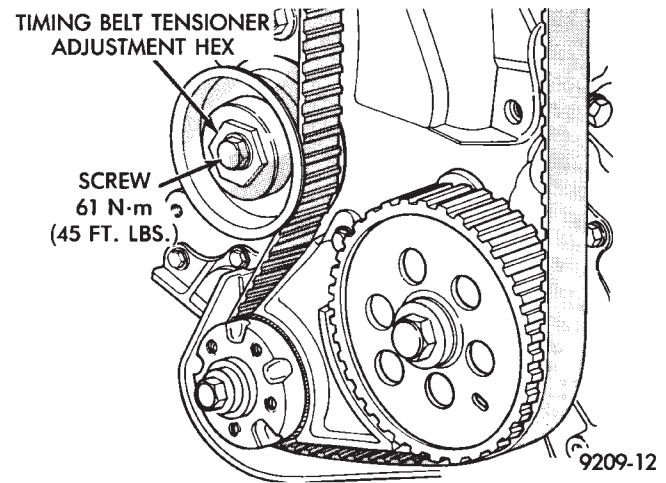

Fig. 6 Remove Timing Belt
- (9) Loosen timing belt tensioner screw (Fig. 6) and remove timing belt.